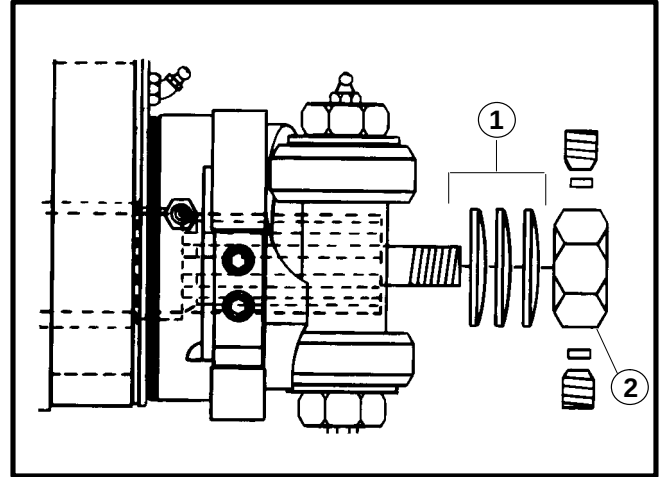

FIGURE 32
6. Install the three (3) spring washers (with convex side facing the adjusting nut) onto the shaft. See Figure 32.